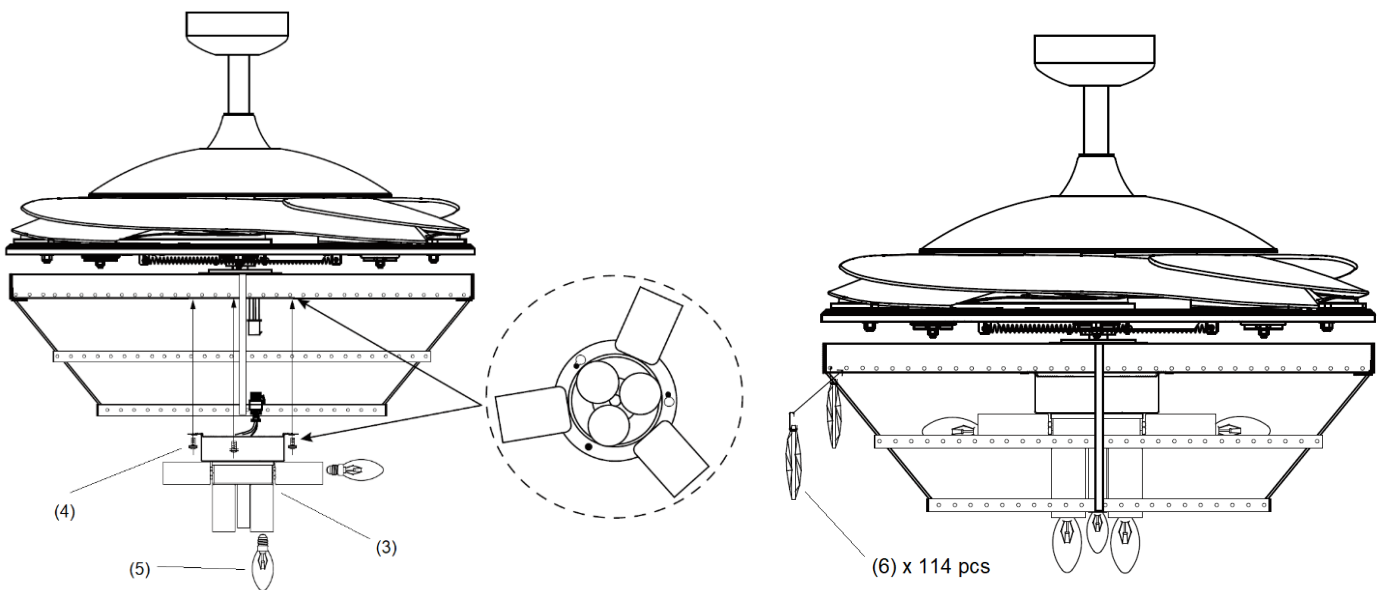

Fig. 7
4. Connect the quick connector to the lamp holder part (3). (Fig. 7)
5. Secure the lamp-holder part (3) to the light kit bracket by tightening the 3 screws (4). Do not over-tighten.
6. Install the globes (5) (Not included) in the lamp holders. Do not exceed the maximum power rating.
7. Install the decorative drops (6) to the light kit.